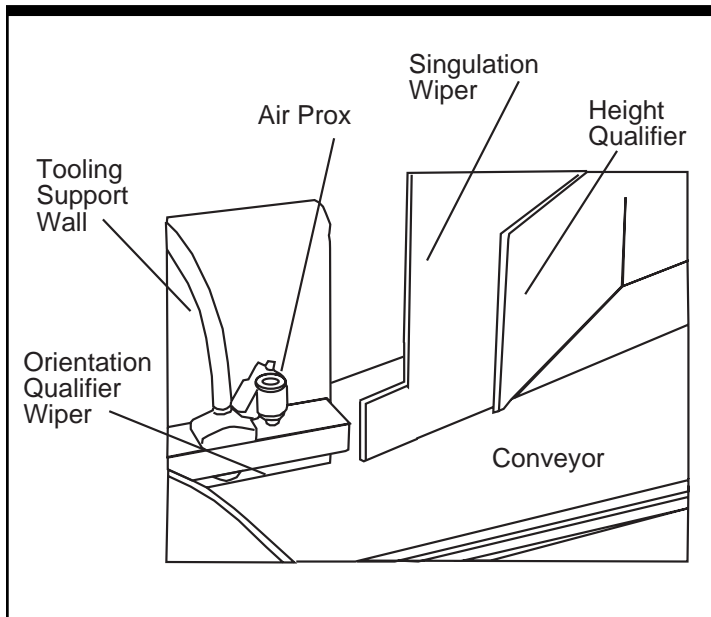

Figure 3-3. CapStar Tooling
**Step 2—Adjust Height Qualifier.** The height qualifier plate is adjusted to allow only one part thickness to pass underneath it. This wiper has 1.88" of vertical adjustment allowance. The height qualifier plate is attached to the deflector plate (see *Figure 3-3*).
**Step 3—Adjust Singulation Wiper.** The singulation wiper is a hinged wall which can be adjusted to different angles. The height qualifier wiper and the singulation wiper work together (see *Figure 3-3*). They are adjusted to allow only one single level of parts to pass in a single file line.